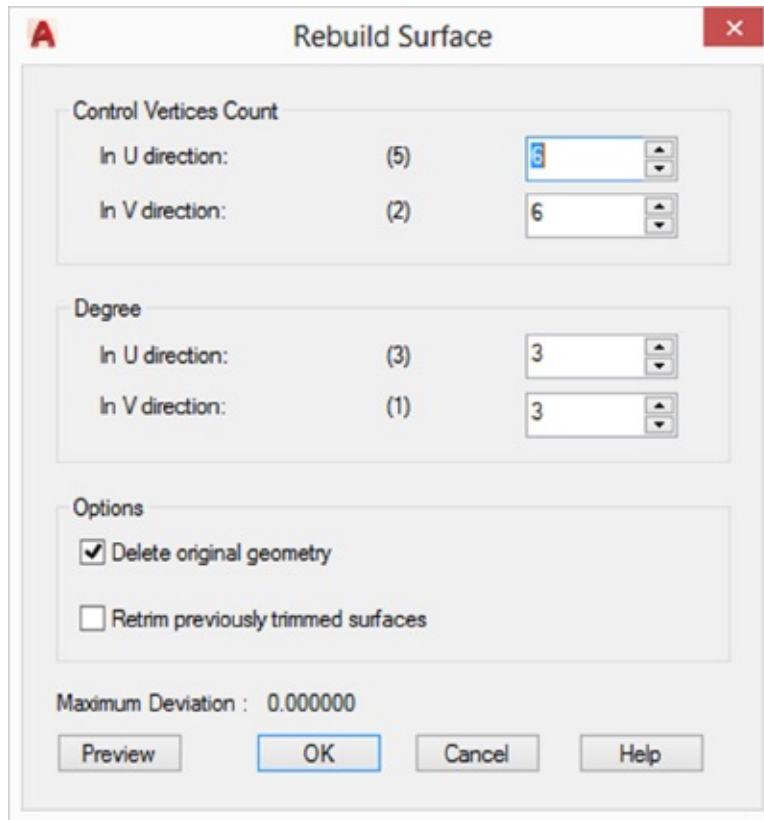

FIGURE 23.55 The Rebuild Surface dialog box
1. Click the Surface – Rebuild tool in the Control Vertices panel, and then click the surface. Or you can click the surface to select it and then right-click and select NURBS Editing > Rebuild. The Rebuild Surface dialog box appears (see Figure 23.55).